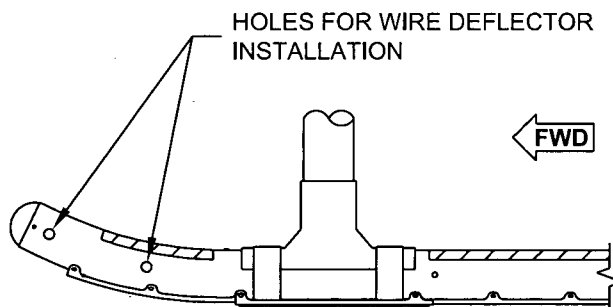

FIGURE 1 - HOLE LOCATION FOR WIRE DEFLECTOR INSTALLATION
- 1) FOR INSTALLATION OF EUROCOPTER WIRE DEFLECTOR KIT SB-135-85-024-2C5, THE HOLES REQUIRED FOR INSTALLATION OF EUROCOPTER SLEEVES (P/N 195-83007-1) ARE ALREADY PROVIDED IN THE DART SKIDTUBES AS SHOWN IN FIGURE 1 OF THIS SERVICE INSTRUCTION. DO NOT DRILL THE HOLES AS OUTLINED IN FIGURES 7 AND 8 OF EUROCOPTER SERVICE BULLETIN EC135-85-024.